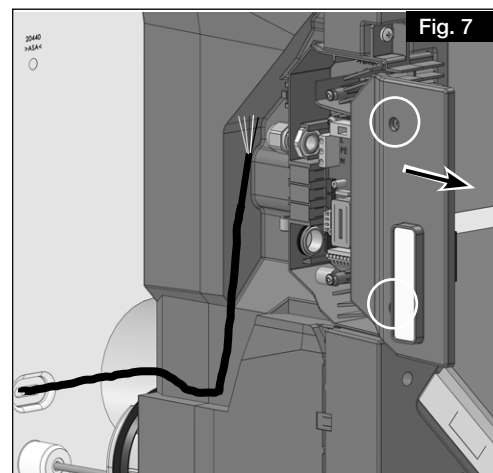

Fig. 7
2. Loosen the two screws on the terminal box cover and remove the cover (see Fig. 7). Ensure that the ribbon cable of the membrane keypad is not subjected to stress.